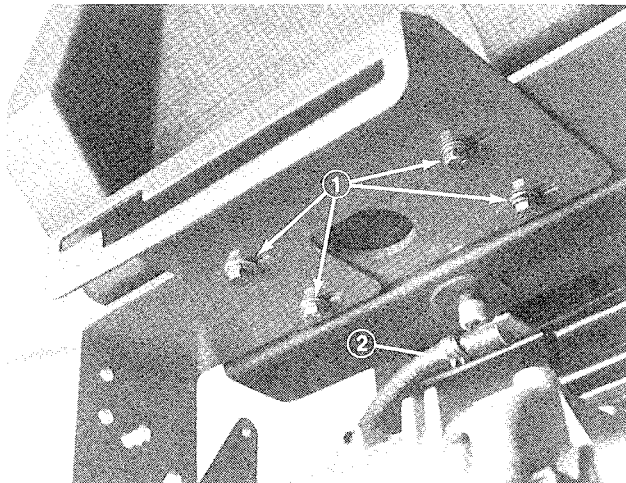

Figure 2
3. Secure fuel line to tank fitting with hose clamp (Fig. 2).
3. Move shift lever to reverse and 4th gear. Control panel mounting holes are slotted to enable it to be moved from side to side (Fig. 2). Position control panel as needed to achieve full shift range. Tighten mounting screws to a maximum of 90 in.-lb. **DO NOT OVER TIGHTEN.**